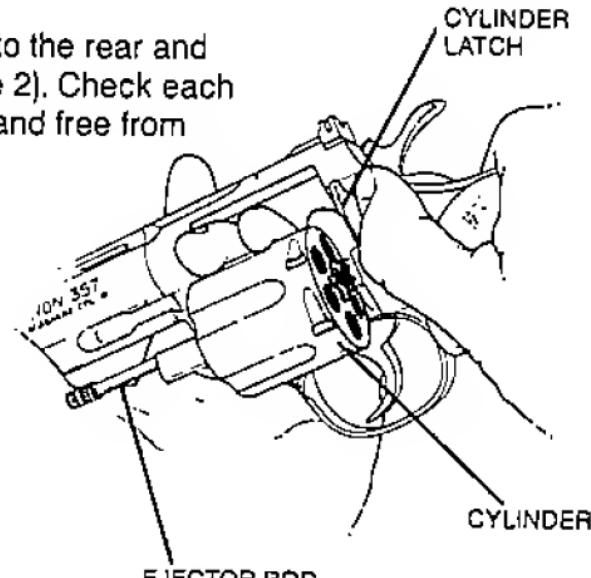

FIGURE 2-OPENING REVOLVER
2. Open revolver by pulling cylinder latch to the rear and pushing cylinder out to the left (See Figure 2). Check each of six chambers to ensure they are clean and free from accumulated oil. (Clean if necessary.)
2. Open revolver by pulling cylinder latch to the rear and pushing the cylinder out to the left of revolver (See Figure 2).
2. Open the cylinder as previously described (See Figure 2).